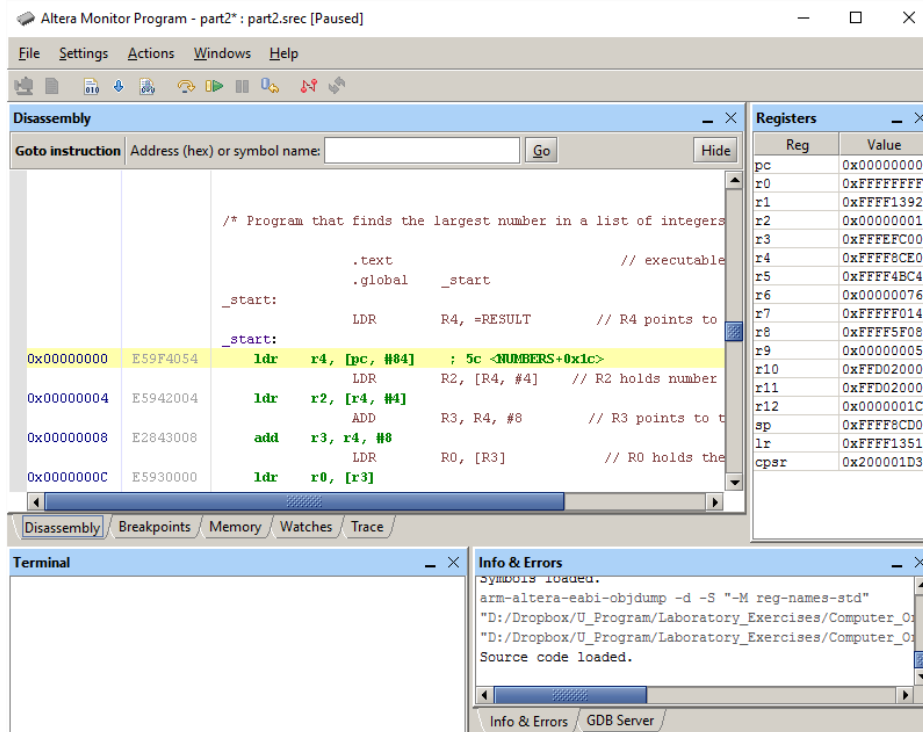

Figure 10: The disassembled view of the program in Figure 9.
4. The Monitor Program will display a disassembled view of the machine code loaded in the memory, as indicated in Figure 10. Note that the pseudo instruction **LDR R4, =RESULT** from your source code has been implemented by using the instruction, **LDR R4, [PC, #84]**. This instruction loads the 32-bit address of the label **RESULT** into register R4. After this instruction has been executed, the content of register R4 will be **0x00000038**, because this is the address in the memory of the label **RESULT**.